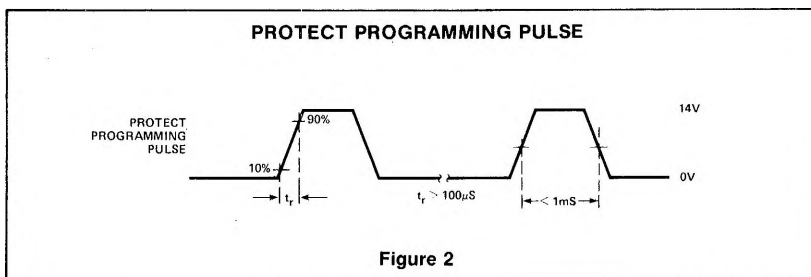

Figure 2
2. Apply a protect programming pulse to every user data bus pin, one at a time. The voltage should be limited to 14V; the current should be limited to 150mA. Apply the pulse as shown in Figure 2.